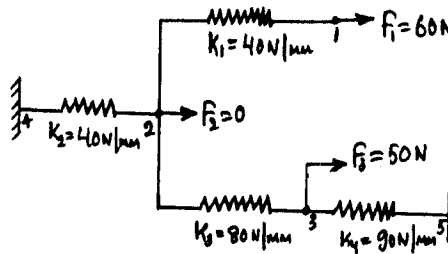

Fig Q1(c)
- c. For the spring shown in Fig Q1 (c) determine the nodal displacements using the principle of minimum potential energy. (08 Marks)